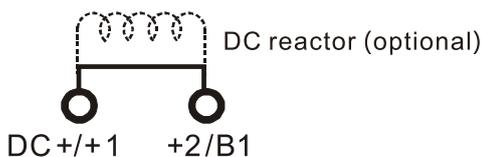

Figure 5-2
- ☑ Use the terminals, as shown in Figure 5-2, to connect a DC reactor to improve the power factor and reduce harmonics. A jumper is connected to these terminals at the factory. Remove that jumper before connecting to a DC reactor.